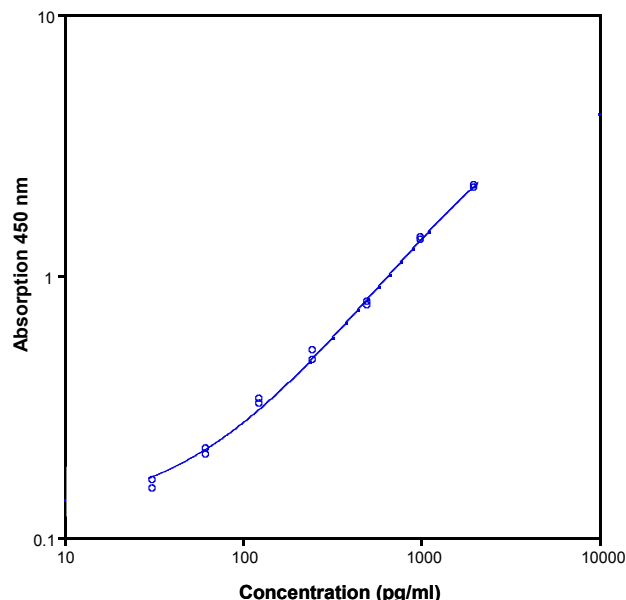

Fig. 8 Representative standard curve for Human IL12/IL23 p40 ELISA Kit. Human IL12/IL23 (p40) was diluted in serial 2-fold steps in Sample Diluent.
7. A representative standard curve is shown in Figure 8 on page 5.